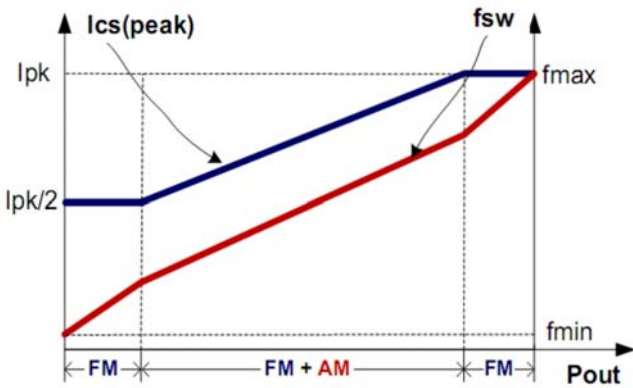

Fig.4
To meet the tight requirement of averaged system efficiency and no load power consumption, a hybrid of frequency modulation (FM) and amplitude modulation (AM) is adopted in U6773S which is shown in the Fig 4.